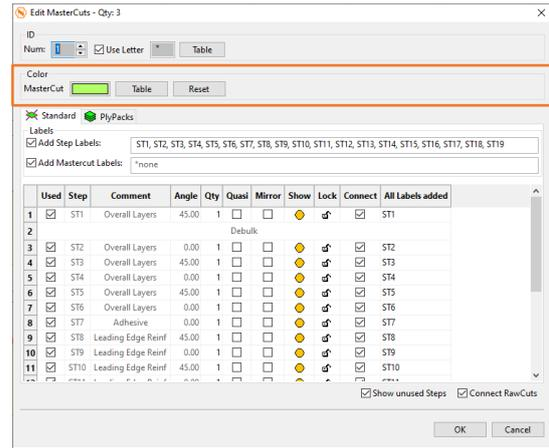

Figure 264
54. Inside the Edit MasterCuts dialog, below the ID controls, we will find the color controls (Figure 264). Here we can modify the colors of all selected cuts at the same time. Therefore we can just change the color by clicking on the Color-Button  whereby all marked MasterCuts are getting the same color.